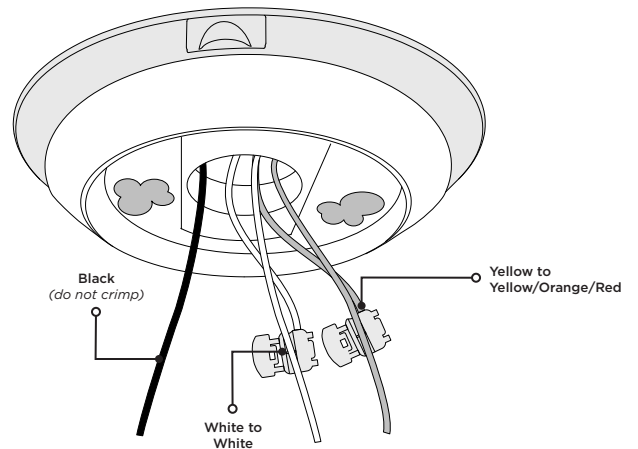

Figure 3: Connecting the 1166's Wiretaps
1. Place the 1166's yellow wiretap over the yellow, orange, or red signal wire and crimp it in place using pliers. See Figure 3.